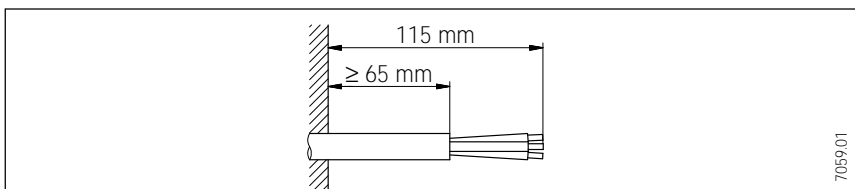

Fig. 15
- For concealed installation, the connection lead must project with insulation at least 65 mm out of the wall (Fig. 15).